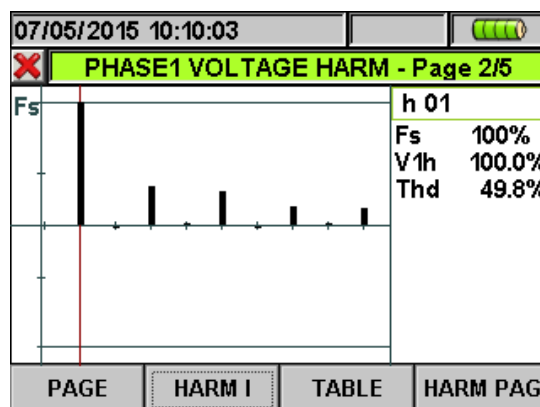
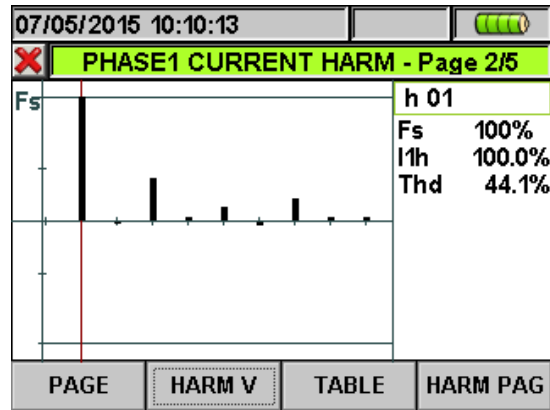

Fig. 36: Harmonic analysis voltage V1 in percentage values for 4-wire system
Fig. 37: Harmonic analysis of current I1 in percentage/absolute values for 4-wire system
- Harmonics values of single V1, V2, V3 voltages and neutral voltage Vn and single currents I1, I2, I3 and neutral current In (for three phase 4-wire system) with THD% values both with histogram graphics and with numerical values in percentage or absolute value depending on the desired settings. These values are shown in four pages selectable by pressing cyclically the **F1** key (or touch the "**PAGE**" at display). On Fig. 36 and Fig. 37 are display as an example, the situation relative to L1 phase for voltage and current on 4-wire systems is shown in the next pictures: